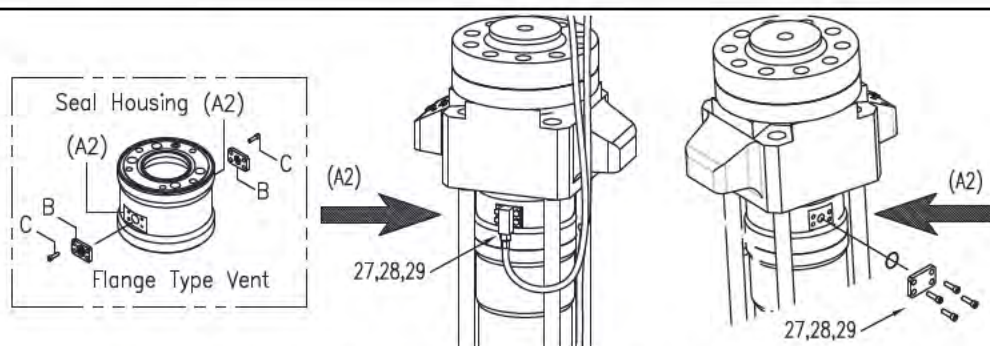

Fig 4-4 Remove Flange Vents at (A2). Install 4-Bolt Flange UW Adapter & 4-Bolt Blind Flange Plate
Step 2. If AR-series breaker, refer to Fig 4-4 & 4-5 to identify the type of air vent (A2).
AR-I (Fig. 4-4) 4-bolt flange plate type vent port (A2).
Early units equipped with (A2) as depicted in Fig 4-4.